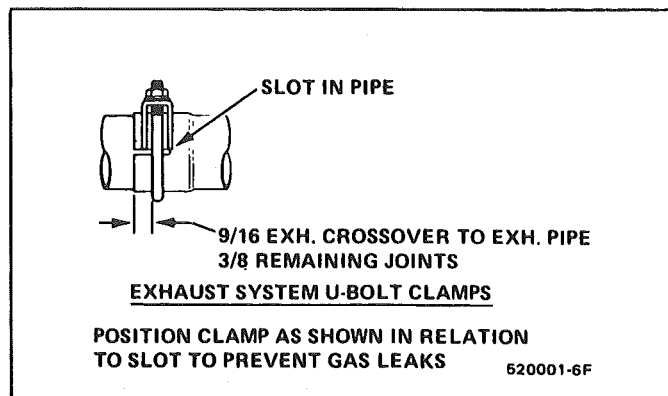

Fig. 1 Installation of Exhaust System Clamp
Two methods are used for connecting exhaust system slip joints, (1) clamp and (2) weld. When servicing a welded connection it should be cut and the new connection clamped when installing replacement parts. Also, coat slip joints with exhaust system sealer before assembling (Fig. 1).